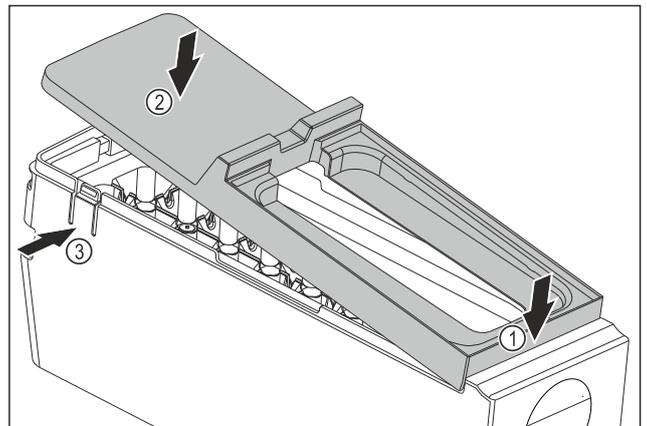

Fig. 115
- ▶ Installing the EasyTwist-Ice body cover: Place the cover on the front. Fig. 115 (1)
- ▶ Lower the cover at the rear. Fig. 115 (2)
- ▷ The cover locks into both tabs Fig. 115 (3) audibly.